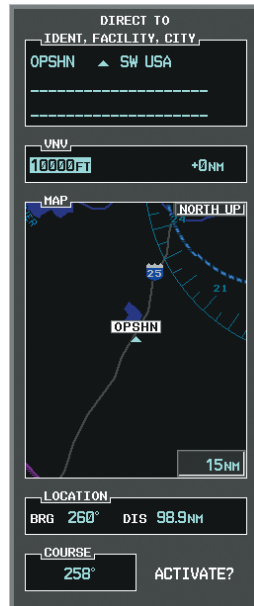

Figure 5-117 Enter VNV Altitude
- d) Turn the large **FMS** Knob to place the cursor in the VNV altitude field as shown in Figure 5-117.